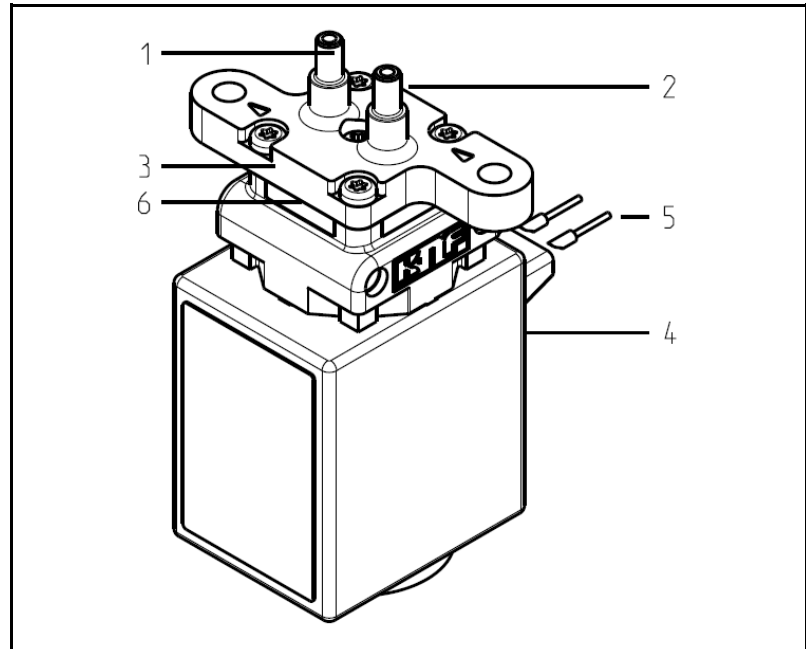

Fig. 1: Magnetic diaphragm metering pump FMM 20
* Pump head 1 (Fig. 1): consists of a connecting plate and an intermediate plate